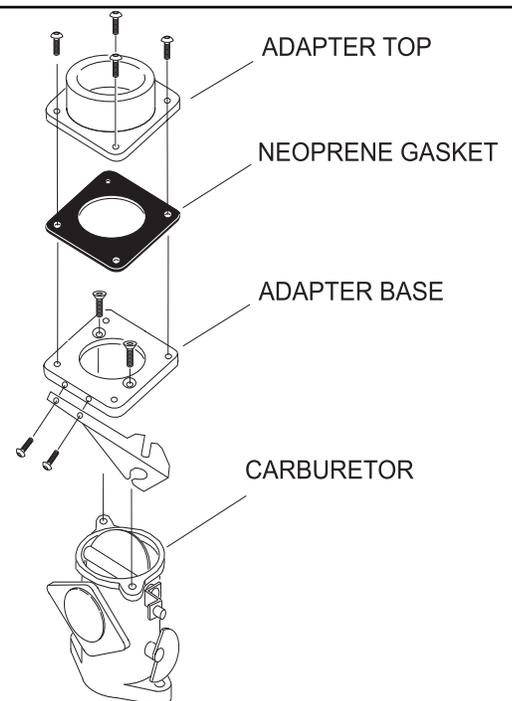

Fig. 2
8. Install the new cable bracket to the adapter base using a thread-locking compound. (Fig. 2)